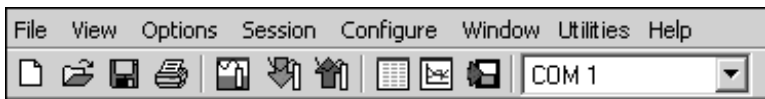
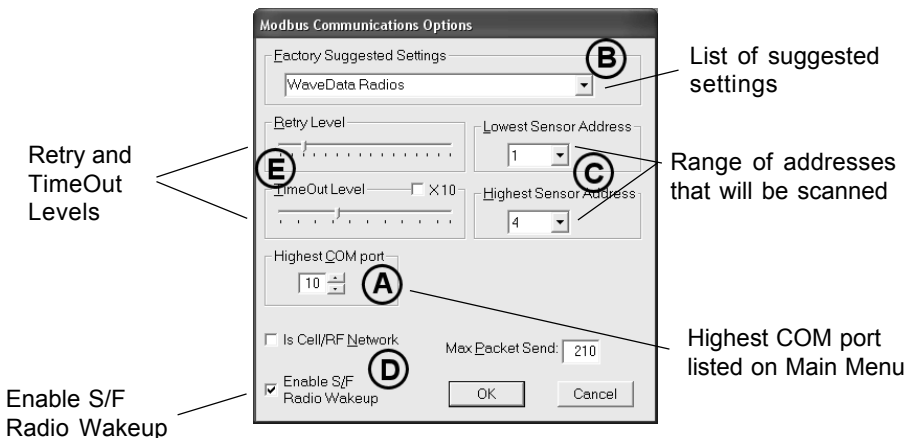

Figure 23: Selecting COM Port
Figure 24: Communication Dialog Box
3. Be sure that the correct COM port is selected in Aqua4Plus. (See figure 23.) If you do not see your COM port listed, first be sure it is not in use by another application. Then be sure that Highest COM Port is set appropriately, as Aqua4Plus will not list any COM ports higher than this setting. See the Communication dialog box under the Options Menu. (See A on figure 24).
- Be sure you have selected WaveData Radios or IP Cell Modem and Radios, if using a cellular modem. (See B on figure 24.)
- Be sure that you are scanning the proper range of addresses to find each unit. Each WaveData unit and each Smart Sensor has a unique address, known as the Modbus address or Sensor address. To increase scanning speed, Aqua4Plus is often set to scan a limited number of addresses. Adjust Lowest and Highest Sensor Address as necessary. (See C on figure 24.)
- Be sure Enable S/F Radio Wakeup has been checked. (See D on figure 24.)
4. Occasionally, Retry and TimeOut levels may need to be increased. (Options Menu, Communications options - see E on figure 24.) Retry Level is how many times Aqua4Plus tries to communicate with a remote radio or a sensor before giving up. TimeOut level is how long (in milliseconds) Aqua4Plus waits for a response from a remote radio or a sensor before retrying. If you continue to have difficulty finding remote units, increase the timeout level slightly by clicking on the indicator and dragging to the right. Note that the more retries and the higher the time outs, the longer the scan time.
3. Be sure that you are scanning the proper range of addresses to find each unit. Select the Communication Option on the Options Menu. Adjust Lowest and Highest Sensor Address as necessary. (See C on figure 24.)